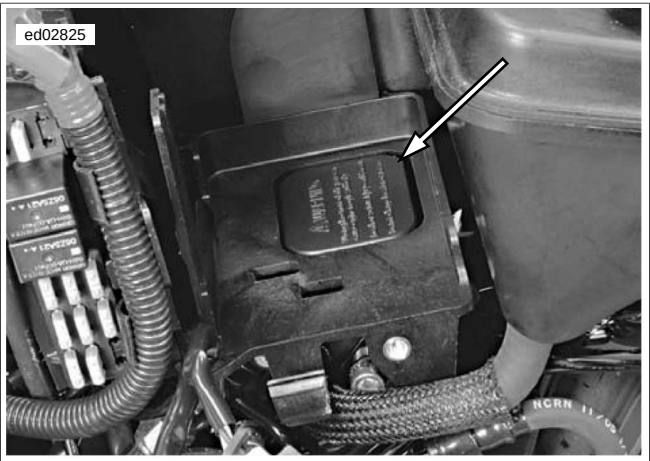

Figure 3-16. TSM/HFSM Location
2. See Figure 3-16. Reach under battery tray and lift TSM/HFSM from cavity in bottom of tray.